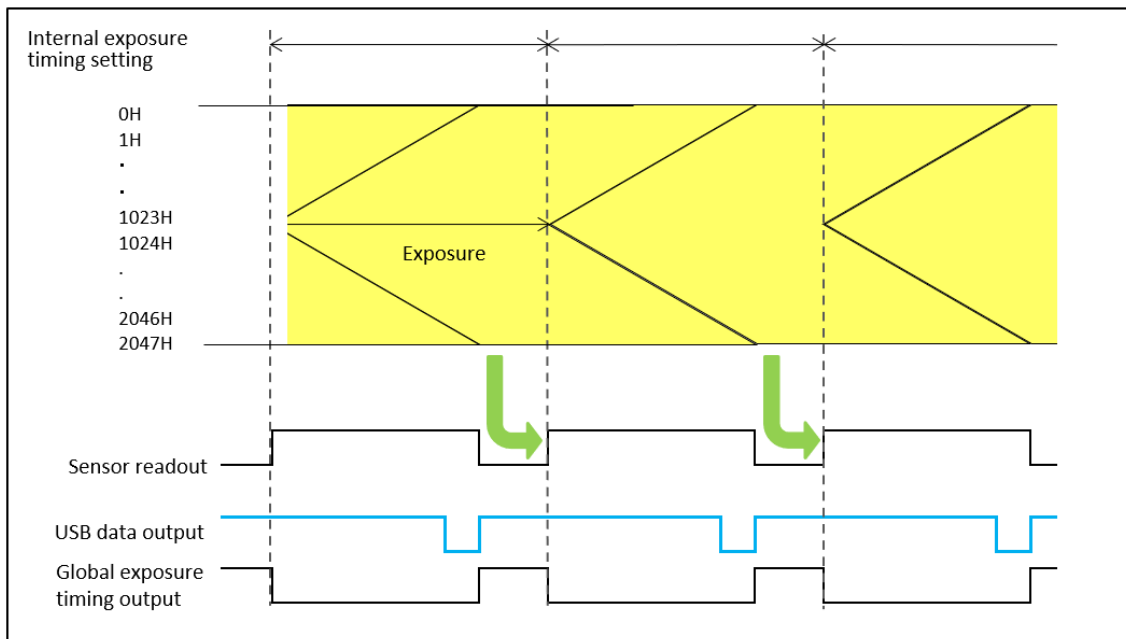
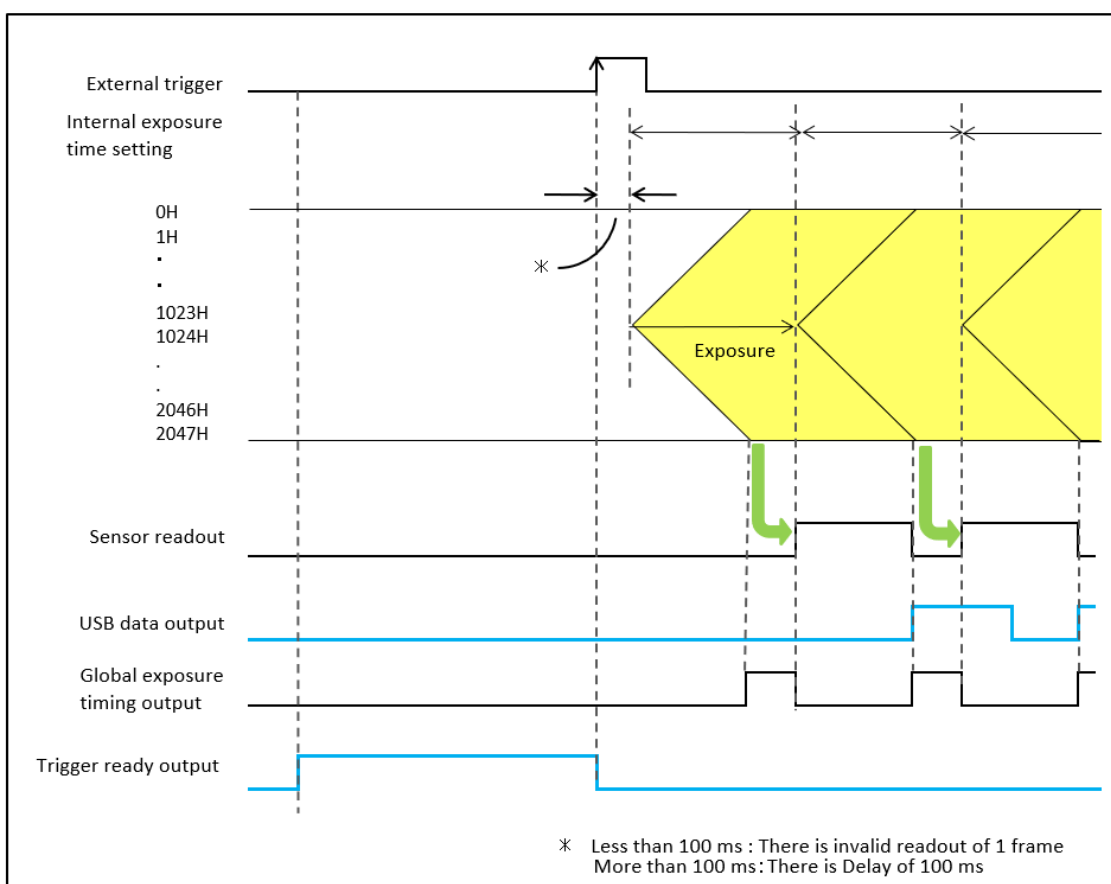

Figure 9-4
Figure 9-10 (Ex. rising edge)
- Please refer to Figure 9-4 to Figure 9-10 about details of each trigger output functions.